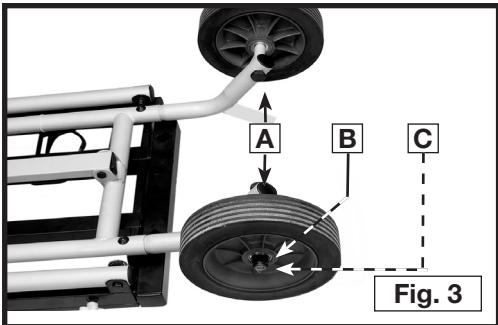

Fig. 3
1. Insert the axle (A) Fig. 3 from the inside of the wheel/storage-foot connector
3. Place the washer (B) on the axle and attach the nut (C). Tighten the nut.